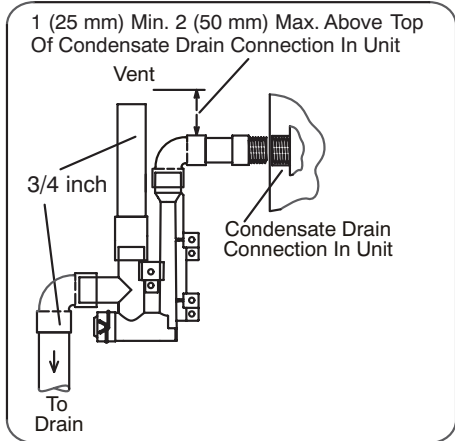

FIGURE 46
- 3 - Install the cap over the clean out opening at the base of the trap. Secure with clamp. See FIGURE 46.
- 4 - Install drain trap using appropriate PVC fittings, glue all joints. Glue the provided drain trap as shown in FIGURE 46. Route the condensate line to an open drain.